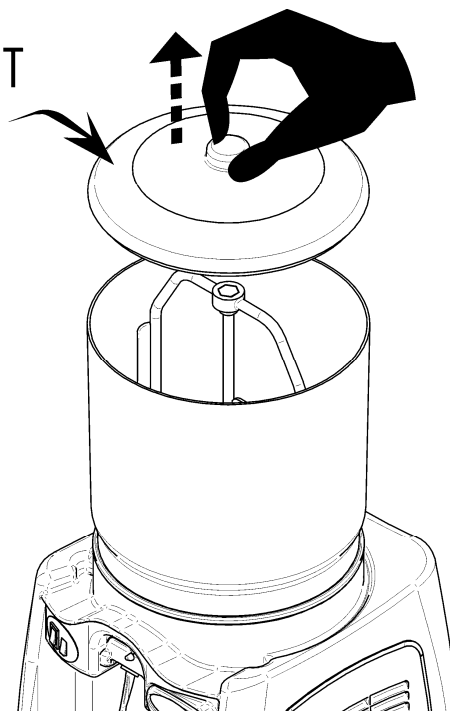

Figure 6
- 3°.- Take off the covers (T), throwing of them up (Fig.6).